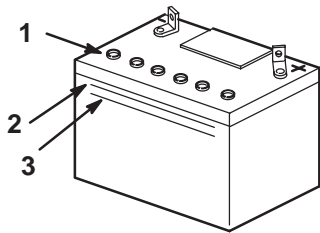

Figure 45
2. Look at the side of the battery. The electrolyte must be up to the Upper line (Fig. 45). Do not allow the electrolyte to fall below the Lower line (Fig. 45).
3. Remove the vent caps from the battery (Fig. 45).
4. Slowly pour distilled water into each battery cell until the electrolyte level is up to the Upper line (Fig. 45) on the battery case.
5. Wait five to ten minutes after filling the battery cells. Add distilled water, if necessary, until the electrolyte level is up to the Upper line (Fig. 45) on the battery case.